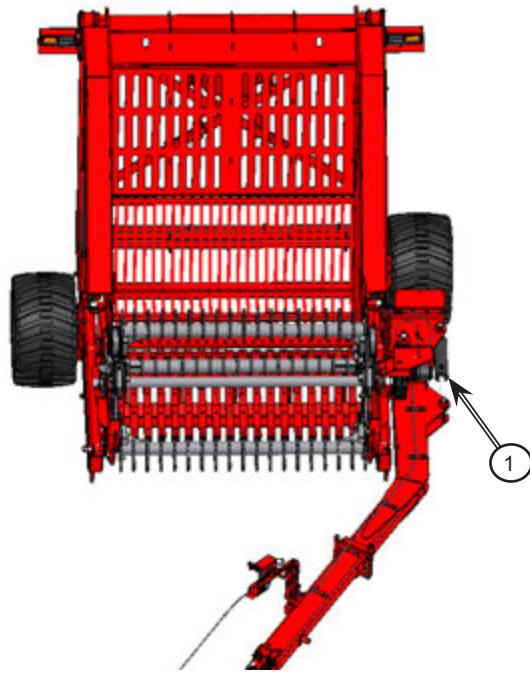

Figure 4.9: Move the hitch into transport position
4. Move the hitch into transport position; see *Figure 4.9*.
- b. Extend the hitch cylinder (1) to move the hitch into transport position. This reduces the travel width of the Rock Picker.